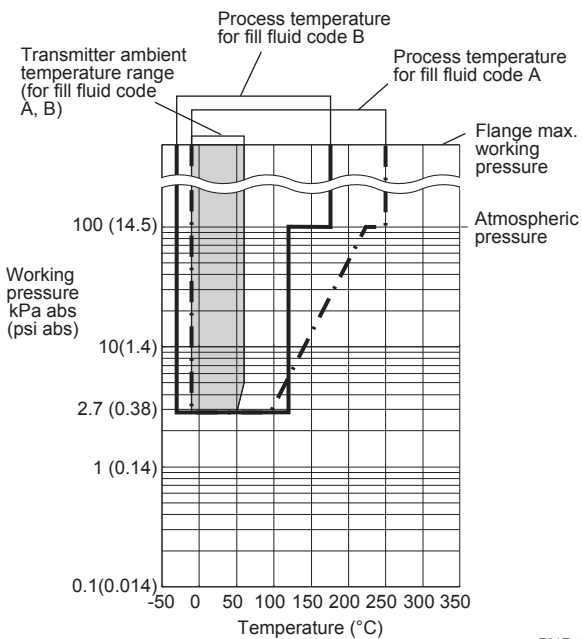

Figure 1-1. Working Pressure and Process Temperature (Fill fluid: silicone oil for general use)
For atmospheric pressure or below, see figure 1-1, 1-2, 1-3, and 1-4.
*1: See figure 1-1, 1-2, 1-3, and 1-4 'Working Pressure and Process Temperature.'